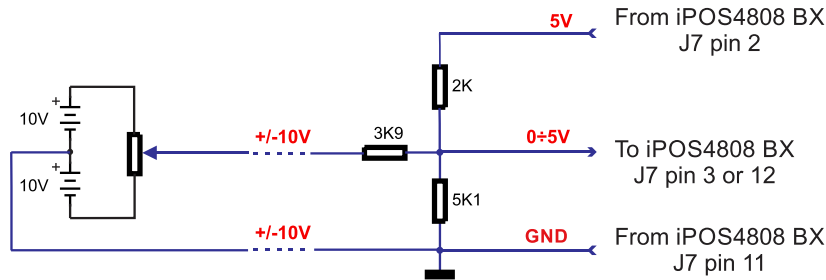

Figure 3.8. +/-10V to 0-5V adapter
1. Default input range for analog inputs is 0+5 V for REF and FBDK. For a +/- 10 V range, see Figure 3.8.